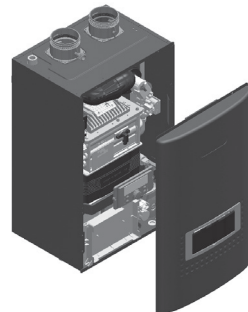

Figure 1
2. Use a hand screwdriver to remove the 4 screws for the front cover. See Figure 1 for illustration of the front cover on the unit.